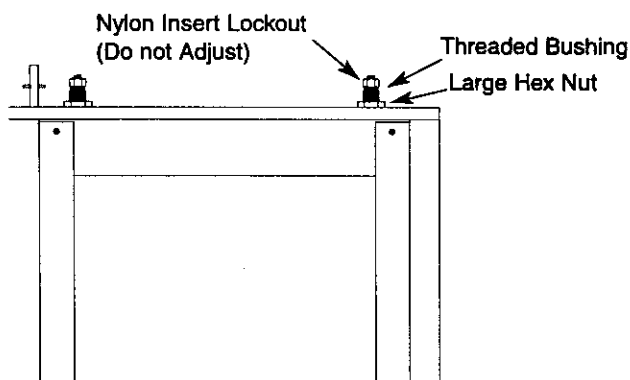

Figure 10 - Adjusting Feed Roller Height
Refer to Figures 10, 15, and 16, pages 10, 16 and 18.
- Loosen the large hex nuts (See Figure 10 and Figure 15, Key No. 10) on both sides of the infeed roller using the wrench provided.